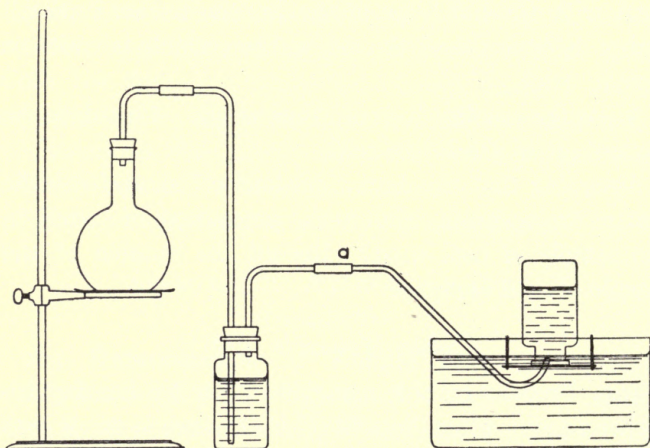

FIG. 27.
204. Prepare carbon monoxide (CO) by heating together 15 gms. of oxalic acid ($\text{H}_2\text{C}_2\text{O}_4$) and 50 cc. of concentrated H_2SO_4 in an apparatus as shown in Fig. 27. The wash bottle should contain a concentrated solution of NaOH.